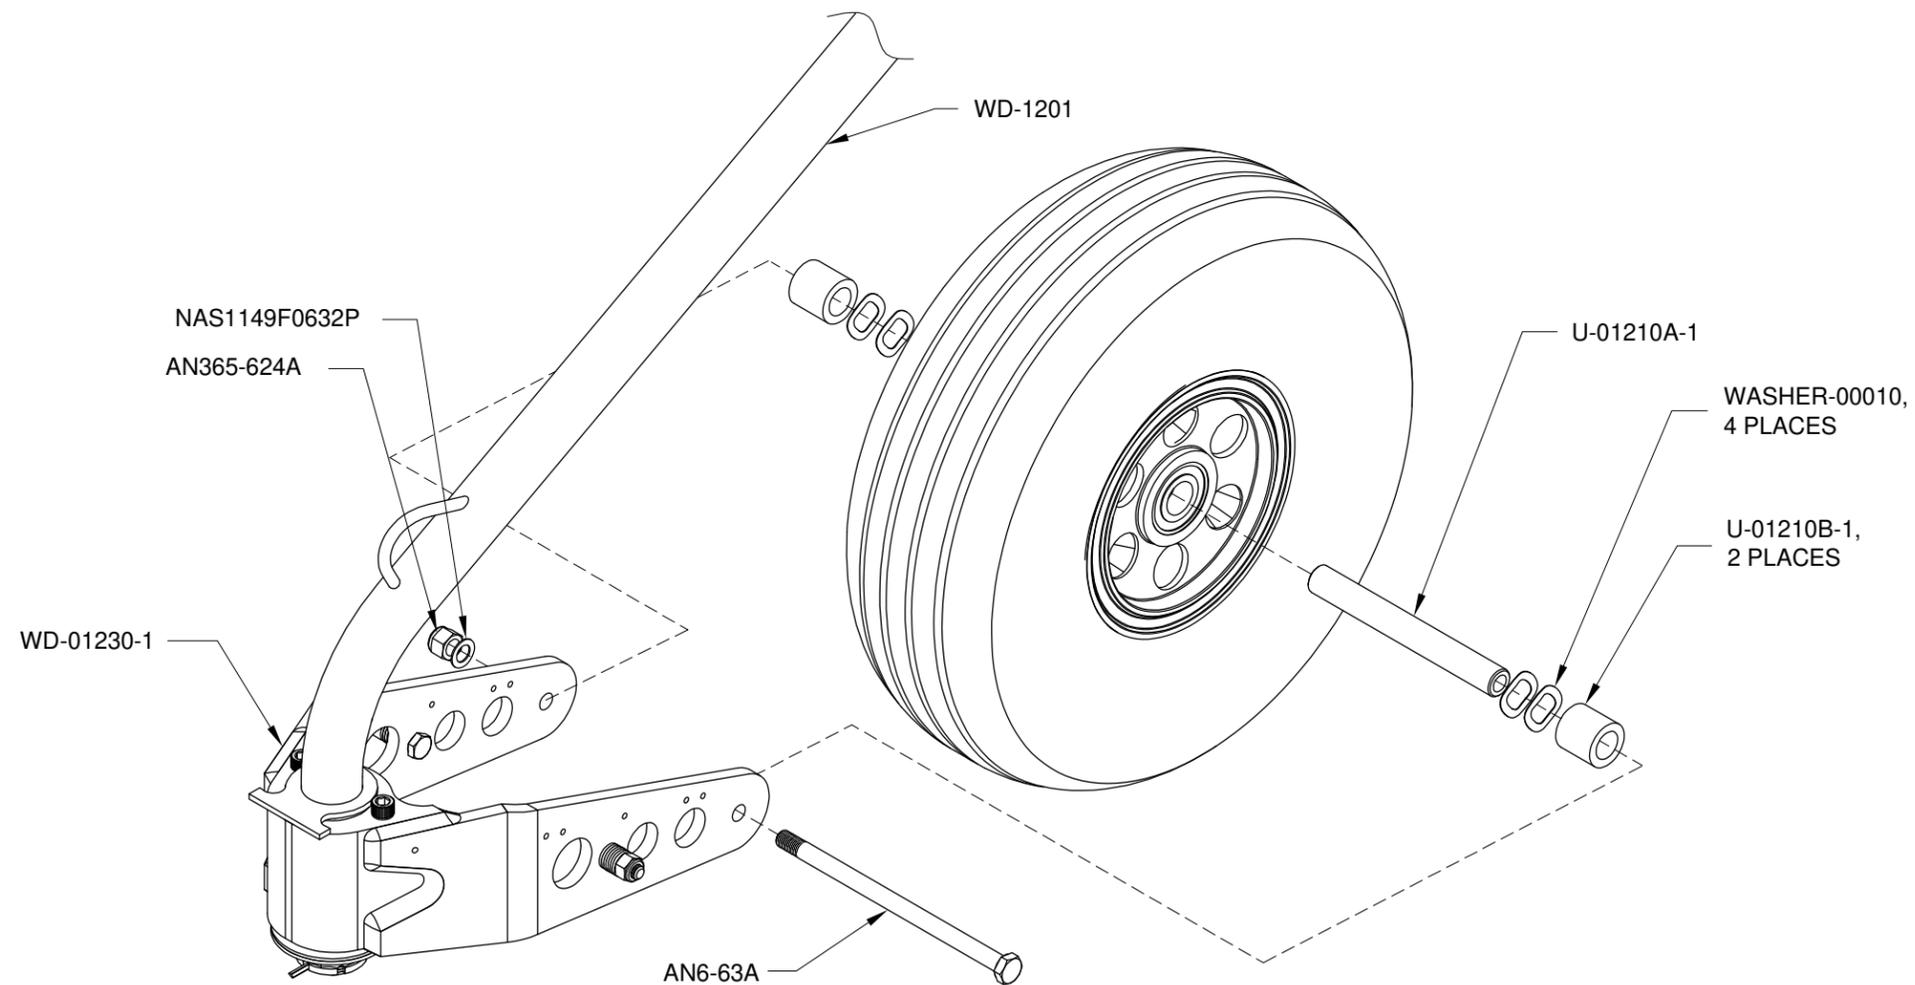

FIGURE 1: INSTALLING THE NOSE WHEEL & TIRE ASSEMBLY
Step 1: Assemble the U-01210A-1 Axle, WASHER-00010 Wave Washers, and the U-01210B-1 Spacers as shown in Figure 1.
Bolt the Nose Wheel and Tire Assembly to the Nose Fork Assembly using the hardware called out in Figure 1.